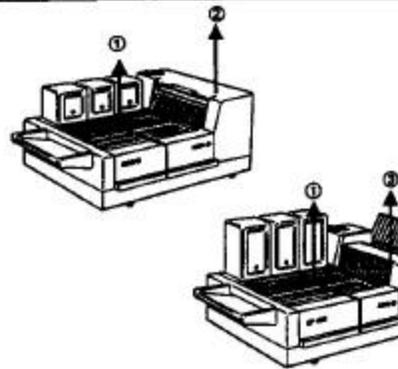

Figure 2
2. Remove the machine cover ①.
3. Remove the dryer hood (see Figure 2 for Curix 60 ② and CP 1000 ③).